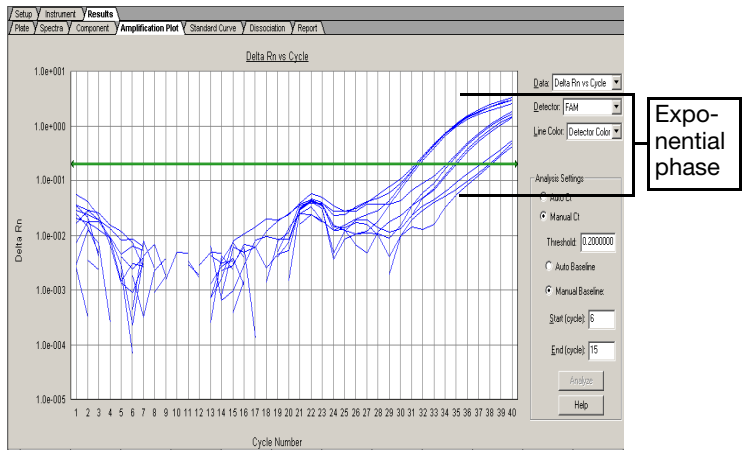

Figure 6 Influenza A Assay RNA Positive Control Amplification Plot – 1000, 100, and 10 Copies
4. Verify that no negative control samples show target-specific amplification (see Figure 6 on page 24 for an example of target-specific amplification).
Figures 6 and 7 show amplification plots for the RNA positive control for Influenza A and H5 assays detected at 1000, 100 and 10 copies per reaction.